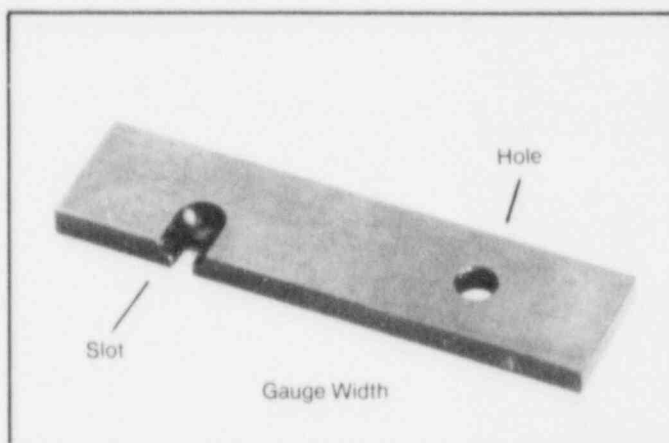

Figure 7.1 Model 550 No-Go Gauge
12. Using a Model 550 no-go gauge, check the male connector of the drive cable. If the ball of the connector fits through the hole of the gauge or the ball shank fits into the slot in the gauge, the connector is worn and the cable must be replaced. Refer to Figure 7.1.
To service the exposure device, remove the source following the source changing procedures of Section VI. (Before removing the source, check the female drive cable connector of the source with a Model 550 no-go-gauge as in Figure 7.1; if the gauge width can fit into the female slot, the connector is worn and the source must be replaced.) After the source has been removed, service the exposure device by performing the following steps: